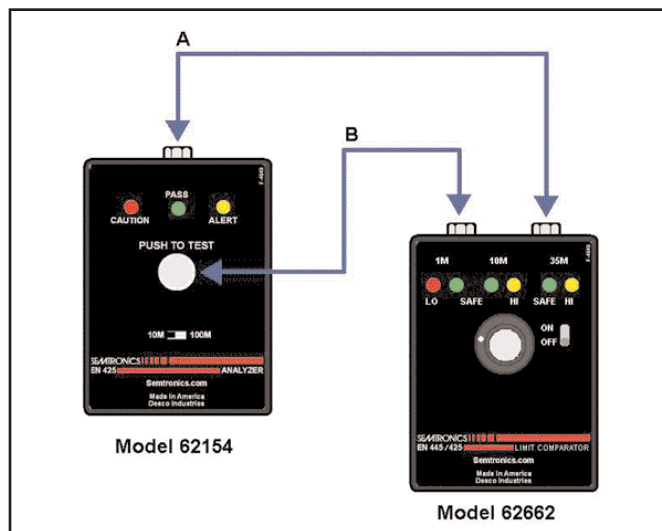

Figure 2. Set-up for calibration - test lead connections
2. Connect the banana plug to the banana jack located on the top of model 62150. (See Line A in Figure 2.)
3. Press the molded button of the other lead onto the test button of the 62150 and switch "ON" the 62662. (See Line B in Figure 2.)